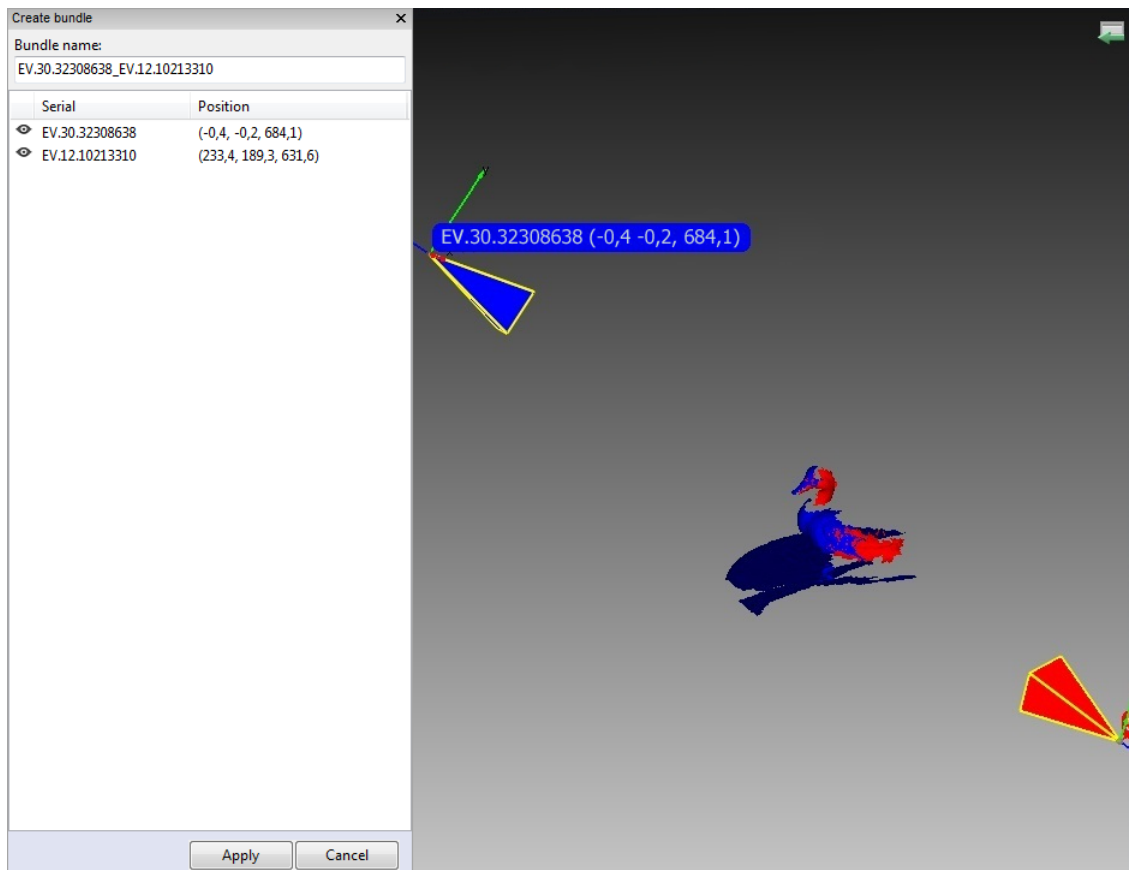

Figure 147: Bundle-creation window.
7. From the menu, select *File* → *Create bundle*. A warning message will appear if you forget to align the scans. Otherwise, the bundle-creation panel will appear (see Figure 147). The *3D View* window will show the selected scans, the position and viewing direction of the scanners (by means of an appropriately colored pyramid), the device ID, and the scanner coordinates. It will display a list of connected devices and corresponding information.